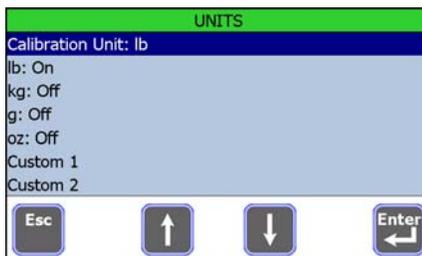

Figure 9.5 Units screen
Select **Units** from the **SCALE** list and the screen in Figure 9.5 appears.
1. Select **Custom 1** in the **UNITS** screen shown in Figure 9.5.